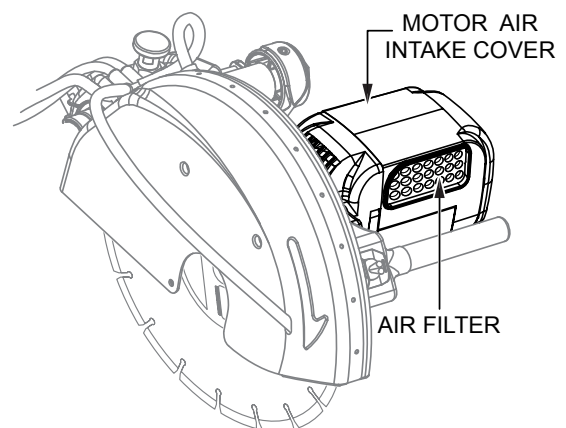

Figure 21. Air Filter Maintenance
2. Remove the existing air filter by pulling it through the opening in the motor air intake cover (Figure 21).
4. Make sure the air filter is completely dry before reinstalling it. If installing a new air filter, inspect the new filter for damage first. Insert the air filter through the opening in the motor air intake cover (Figure 21). The air filter should completely fill the filter cavity.